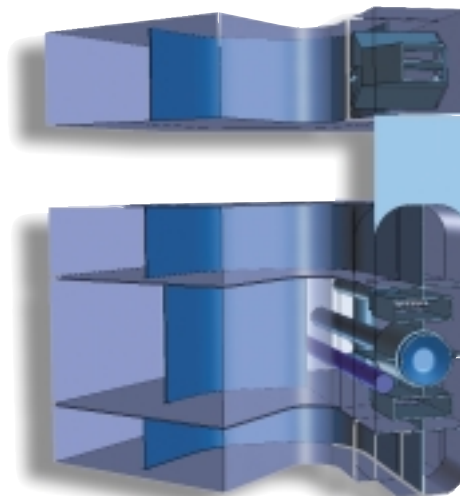
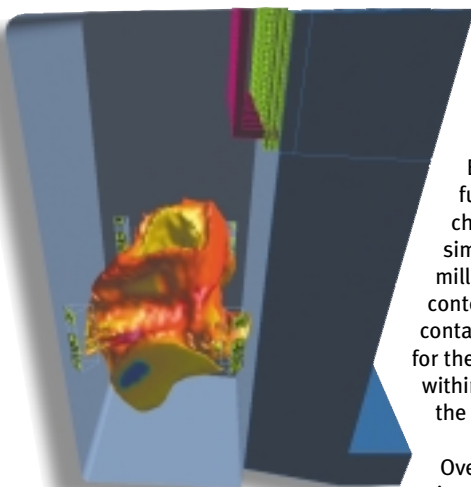
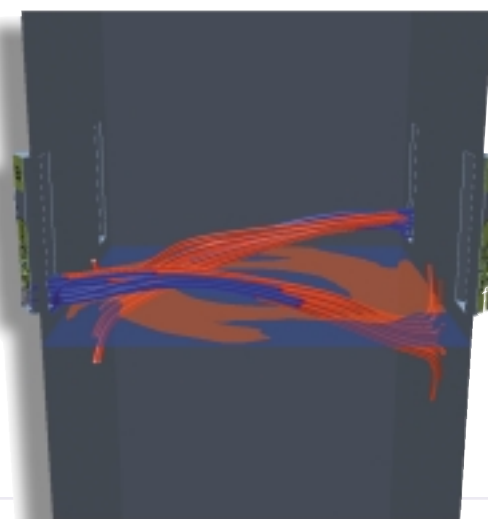

Figure 1: Tangentially Fired Burner
Figure 2: Luminous Flame Contour
Figure 3: Flame impingement Streamlines
BMA carried out this study in two parts: (1) a detailed burner simulation and (2) a complete full-scale boiler simulation. This was done in order to capture the complex flow pattern and mixing characteristics at the burner outlet and to provide inlet boundary conditions for the full-scale boiler simulations. One of the tangentially fired burner geometries is shown in figure 1. Approximately 3.5 million computational cells were used for the burner study. Figure 2 shows the luminous flame contour of the natural gas flame for the original boiler design where the computational mesh contained some 4 million cells. The streamlines in Figure 3 show which of the burners are responsible for the flame impingement problem. The STAR-CD predictions for furnace outlet temperature were within 2% of measured field values, and the predicted flame impingement locations corresponded with the furnace wall surfaces covered with carbon deposits.